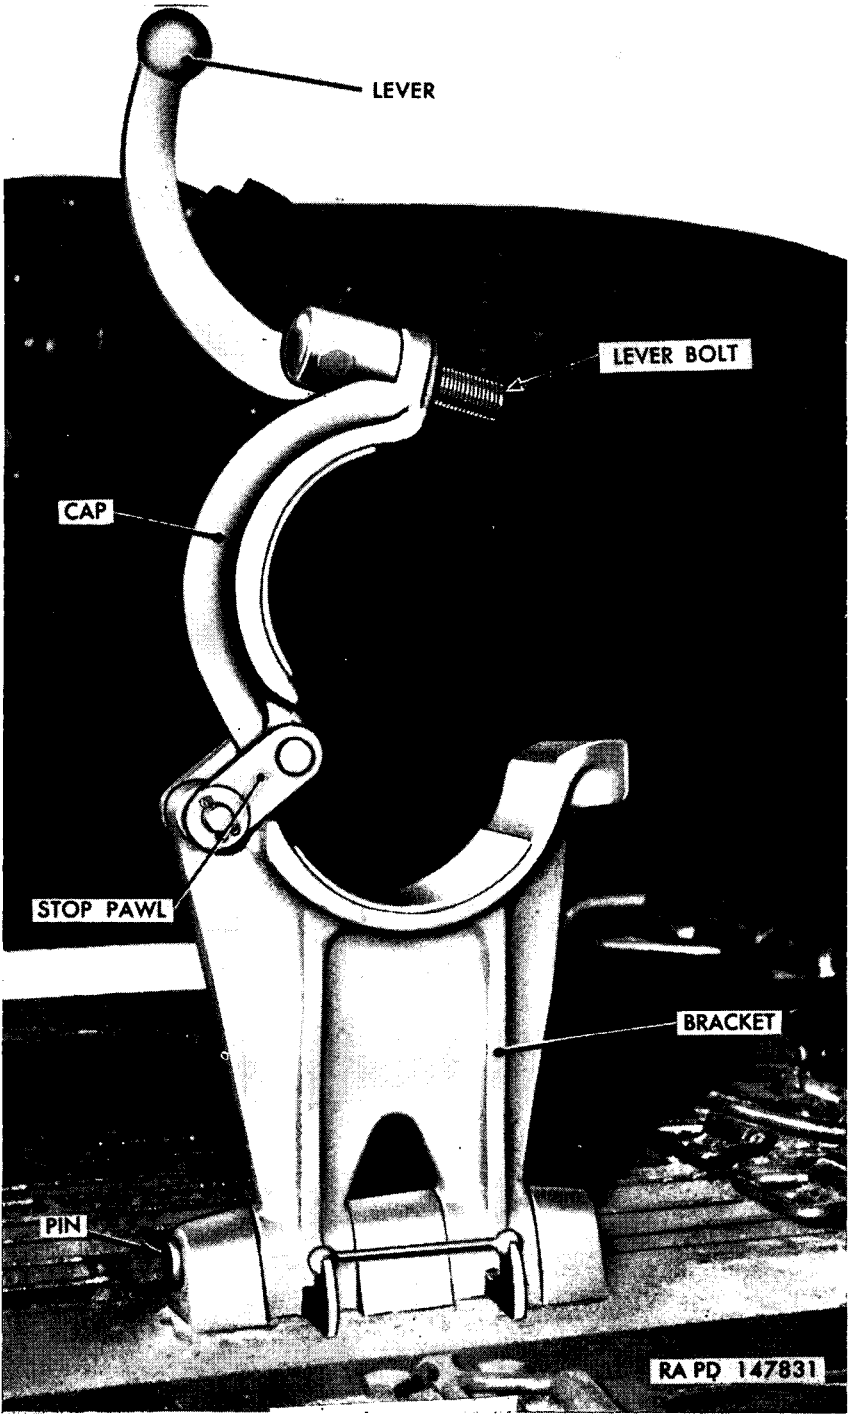
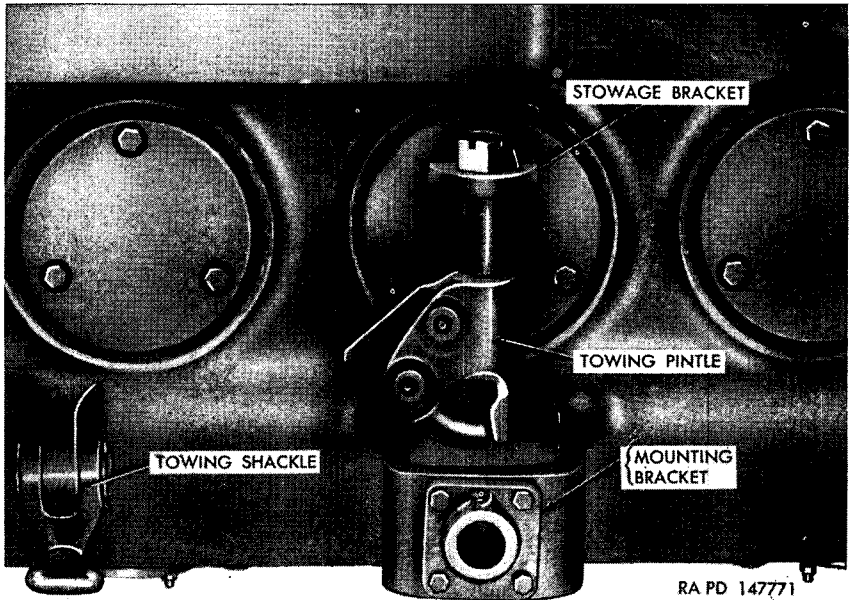

Figure 289. Gun traveling lock—installed view.
Figure 290. Towing pintle and shackles—installed view.
(fig. 7) provide means of attaching a tow bar or cable. The hull is equipped with two lifting eyes (figs. 4 and 5) at each end for use when hoisting the vehicle. A demountable towing pintle at the rear is used for towing light vehicles (fig. 290). The gun traveling lock (fig. 289) supports the gun while in traveling position thereby relieving the gun mechanism of shock-load arising with vehicle motion.
a. REMOVAL. Remove 90-mm gun from lock. Remove retainer ring with snap ring pliers 41-P-1992-36 and knock out pin that secures bracket to engine compartment rear crossbeam bracket (fig. 289). Remove lock.
a. **INSTALLATION FOR USE.** Remove towing pintle from its stowage bracket on transmission center access door (fig. 285). Place pintle in position on mounting bracket (fig. 290) and install nut and cotter pin.
b. **REMOVAL FOR STOWAGE.** Remove cotter pin and nut and pull pintle from mounting bracket (fig. 290). Place towing pintle in position on stowage bracket (fig. 290) and install nut and cotter pin.